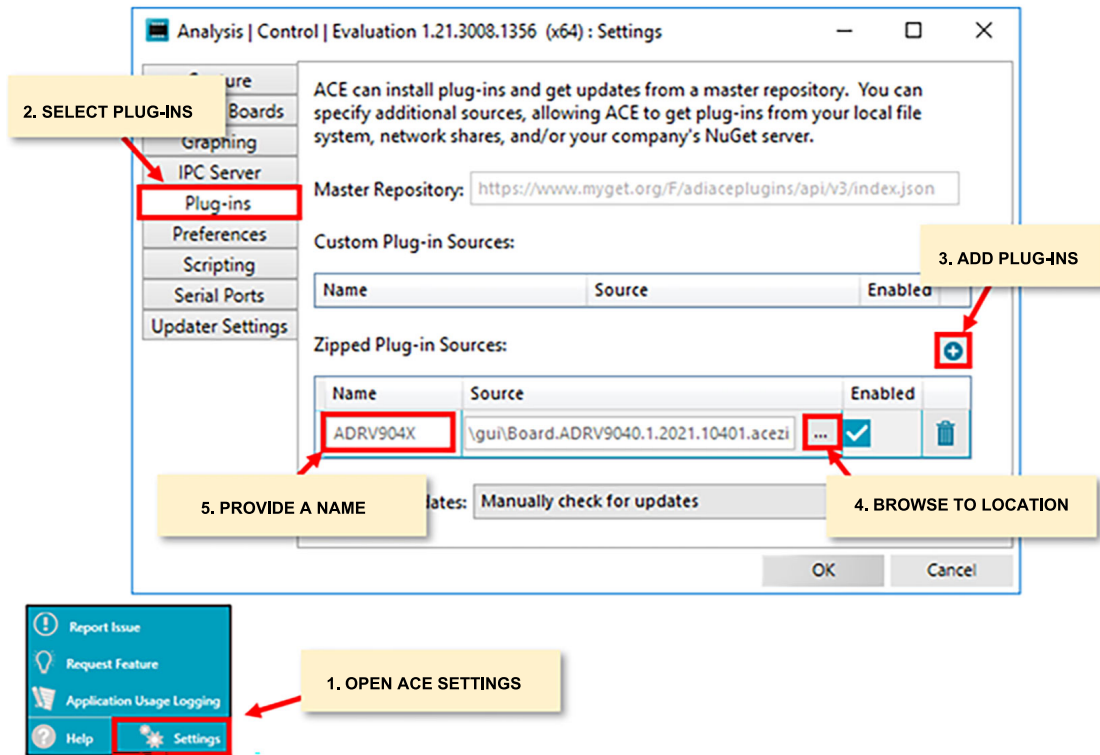

Figure 121. Adding ADRV904x Plugin as a Zipped Source in ACE Settings, Once Added, Run ACE Plugin Manager to Install the Plugin
The user can install the ADRV904x plugin by providing the plugin **.acezip** file path to ACE under **Settings** as shown in Figure 121. The steps are as follows:
2. Add a new plugin by clicking on the **+** button under **Zipped Plugin Sources** as shown in Figure 121.